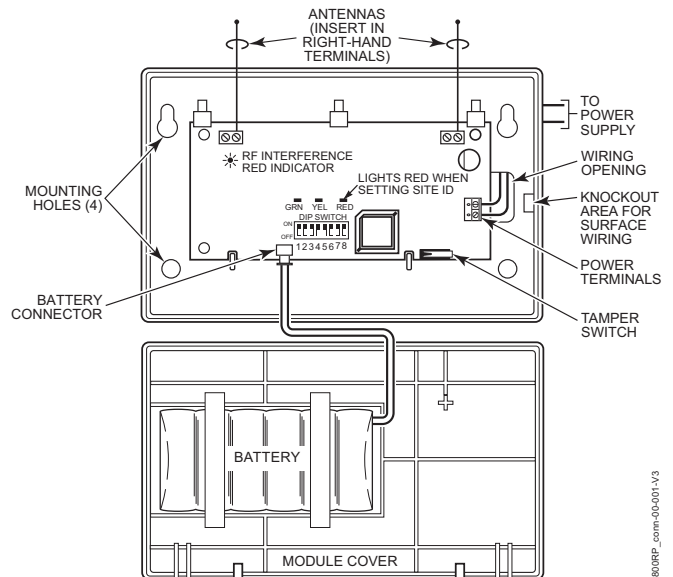

Figure 2.
The 5800RP is powered from an AC external power source connected to terminals 1 and 2 (see figure 2).
- Connect the transformer to the 5800RP's terminals. Refer to Figure 2. These terminals are not polarized. The leads from the AC transformer may be connected to either terminal. Do not connect to a receptacle controlled by a switch.
- Begin battery installation by attaching an adhesive backed hook and loop fastener strip (supplied) to the Summary of Connections label in the cover. Place the strip within the large box drawing labeled 'PLACE BATTERY HERE'. Refer to Figure 2.
- Attach another adhesive backed hook and loop fastener strip to the battery. Attach the battery to the cover by firmly pressing the two hook and loop fastener strips together. Make sure the battery is positioned as shown in Figure 2.
- Plug the battery cable into the battery connector on the 5800RP PCB. Refer to Figure 2.
- Temporarily disconnect the power source and battery from the 5800RP. Refer to Figure 2.